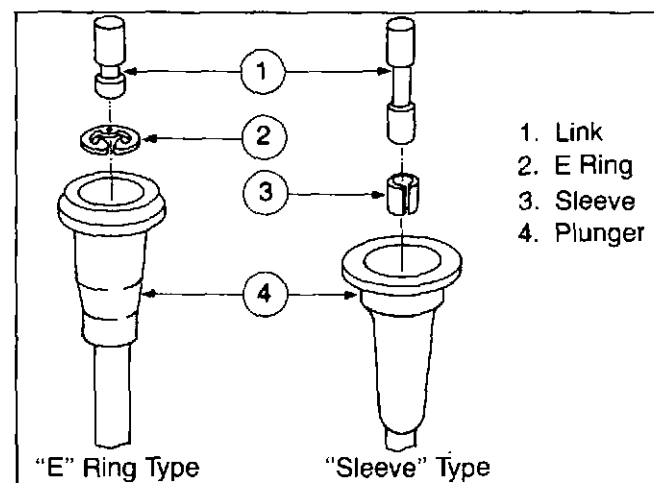

Fig. 3-16, (F60111). Plunger link assemblies
4. Place the new retaining ring on the new plunger link and press the link into place, Fig. 3-16. If it is a sleeve type retainer, press the retainer flush to 0.010 inch [0.254 mm] below the bore surface.